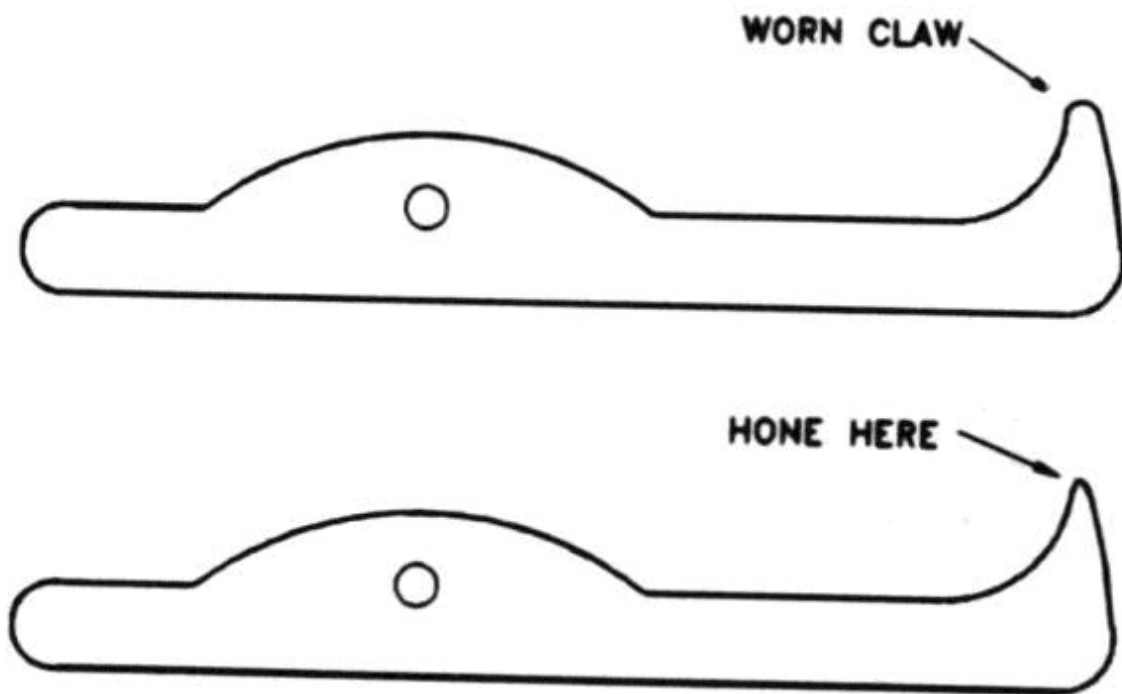

Figure 8-5: Worn or dull extractors may sometimes be corrected by honing the extractor hook angle.
*Fails to extract* : Most centerfire cartridge cases swell when fired, and if the chamber is dirty or pitted, the case will have a tendency to stick. When an extractor hook is somewhat worn, it can slip over the case rim when the bolt is withdrawn, leaving the fired case in the chamber. Sometimes, if the wear is not too bad, the problem may be corrected by honing the extractor hook angle (Fig. 8-5). Do not remove too much metal, as described previously. Proceed on a trial — and— error basis until the extractor functions properly. Also check the extractor ring for tension and adjust it to acquire bite. In rare cases, it may be necessary to replace either or both the extractor ring and extractor.